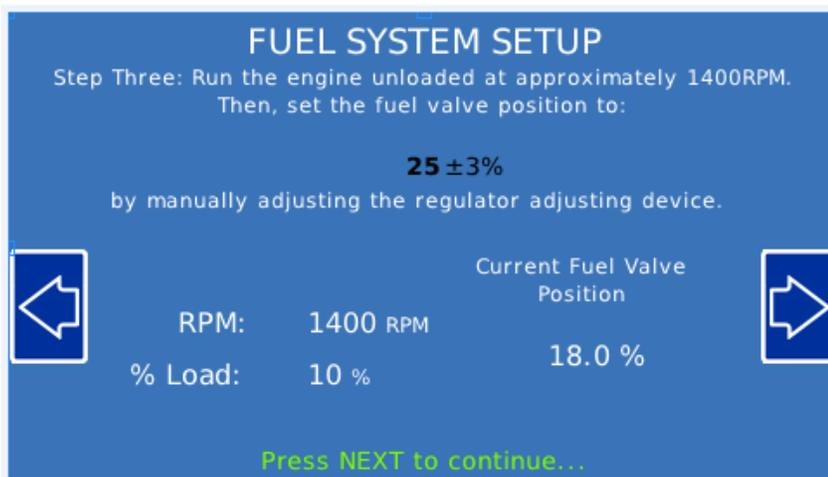

Figure 14-Step three: light load
10. Run the engine unloaded at 1400-1800 rpm. Allow the control to activate, activation will be seen when the fuel control valve starts moving on the screen. Adjust the regulator adjuster while watching the FCV position on the HMI until the “Current Fuel Valve Position” is within 2-3% of the desired setting. Turning the regulator adjustment clockwise (**CW**) will decrease the FCV position, counter clockwise (**CCW**) will increase the FCV position. (See Figure 14). Note: It may take a few minutes for the control to go active.